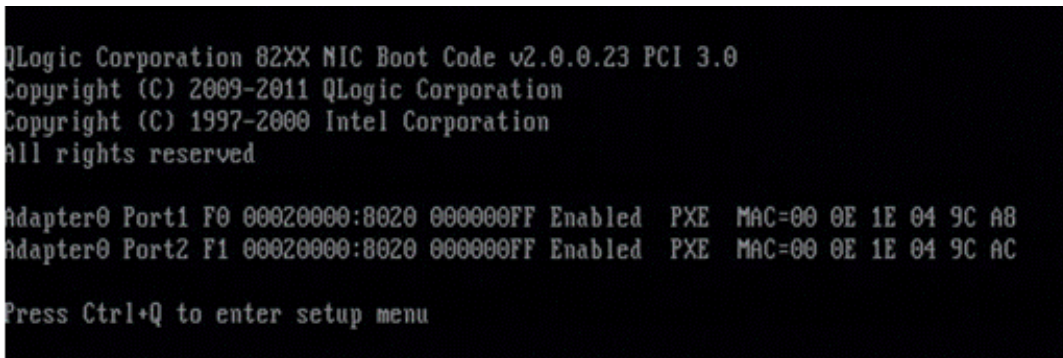

Figure 25: POST Test Screen Prompt to Enter Setup Menu
1. When the screen prompts you to enter the setup menu (Figure 25) during the POST test, press Ctrl+Q to enter the OptionROM setup.